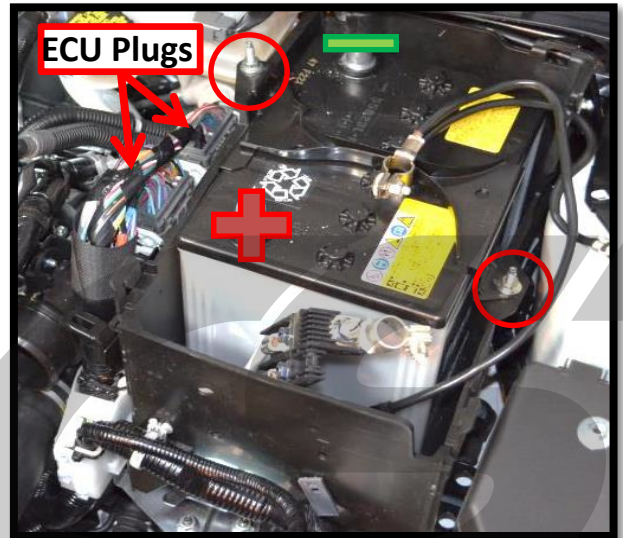
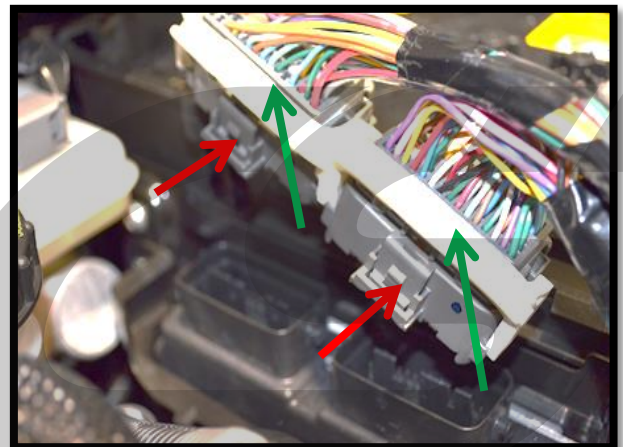

Figure 2b
Figure 2d
- b) Disconnect the battery. Disconnect the battery terminals with a 10mm end wrench. Refer to **Figure 2b** for negative (-) and positive terminals (+). Disconnect the negative terminal of the battery first, then the positive terminal (**Figure 2b**).
- c) Remove the two 10mm nuts for the battery tie down bracket (shown with **red circles** in **Figure 2b**).
- f) Disconnect the ECU plugs by pushing on the tabs (**red arrows** in **Figure 2d**) and pulling the white lock upward simultaneously (**green arrows** in **Figure 2d**). Refer to **Figure 2b** for location of ECU plugs and **Figure 2d** for close ups.